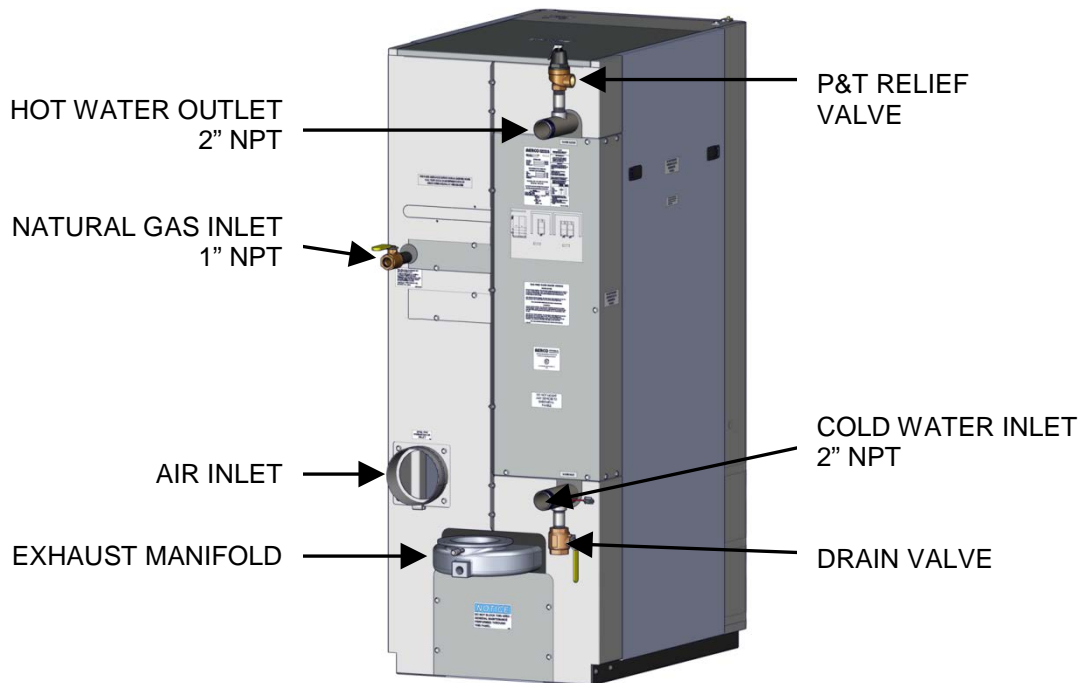
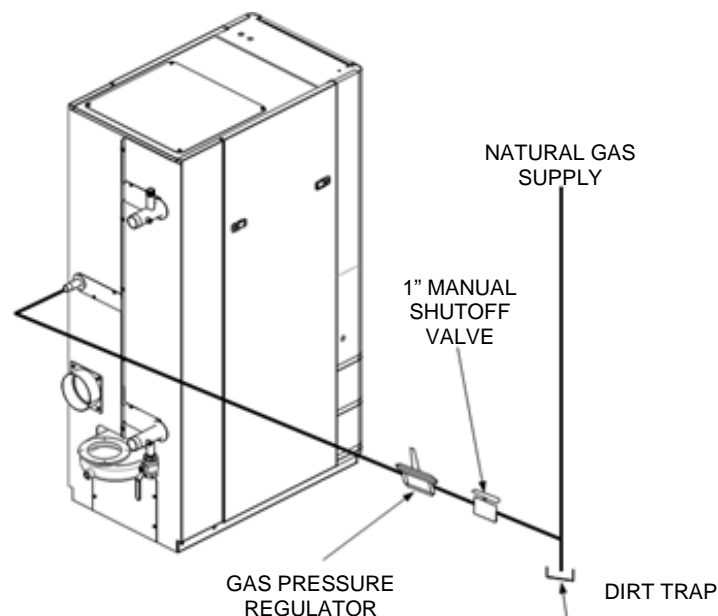

Figure 2-3a. Water Inlet & Outlet Locations
Figure 2-8. Manual Gas Shut-Off Valve Location
The locations of the 2" NPT cold water inlet and hot water outlet piping connections are shown in Figure 2-3a. Flow rates through the unit are limited to 50 gpm continuous and 75 gpm intermittent.
3. Ensure that the valve is positioned with the actuator enclosure position as shown in Figure 2-3A.
A manual shut-off valve is factory-installed in the gas supply line at the unit, as shown in Figure 2-3a. Additionally, if a gas regulator is installed upstream of the unit, refer to Figure 2-8 to determine the location of the manual shut-off valve installation in relation to the regulator. The maximum allowable gas pressure to the Heater is 14" W.C.
For Massachusetts installations, a mandatory external gas supply regulator must be positioned as shown in Figure 2-8. The gas supply regulator must be properly vented to outdoors. Consult the local gas utility for detailed requirements concerning venting of the supply gas regulator.
For all installations (other than Massachusetts) that EXCEED 7" W.C. gas pressure, a mandatory external gas supply regulator must be positioned as shown in Figure 2-8. No regulator is required for gas pressures below 7" W.C. of pressure. Consult the local gas utility for detailed requirements concerning venting of the supply gas regulator.